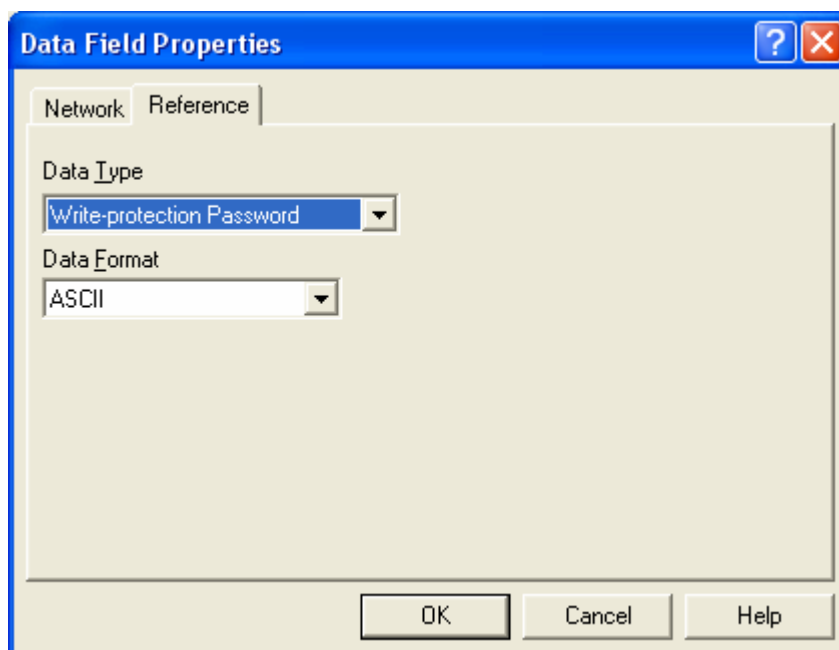

Figure 3
- 6) The value of “Write protection password” shows the value of the security password defined in the INI file at the section [WRITEprotection]. The SMS driver will accept incoming commands write commands only if prefixed with the correct password. Write sessions must always be password protected. The default password is specified in the ini file, while it can be changed run time editing a special field programmable on the Designer project. The write protection password filed is of ASCII type as shown in Figure 3. Passwords changed at run time are stored in battery-backed RAM memory; the changes to the password object can not be stored at power cycle if the panel does not have the battery or if the battery is empty.